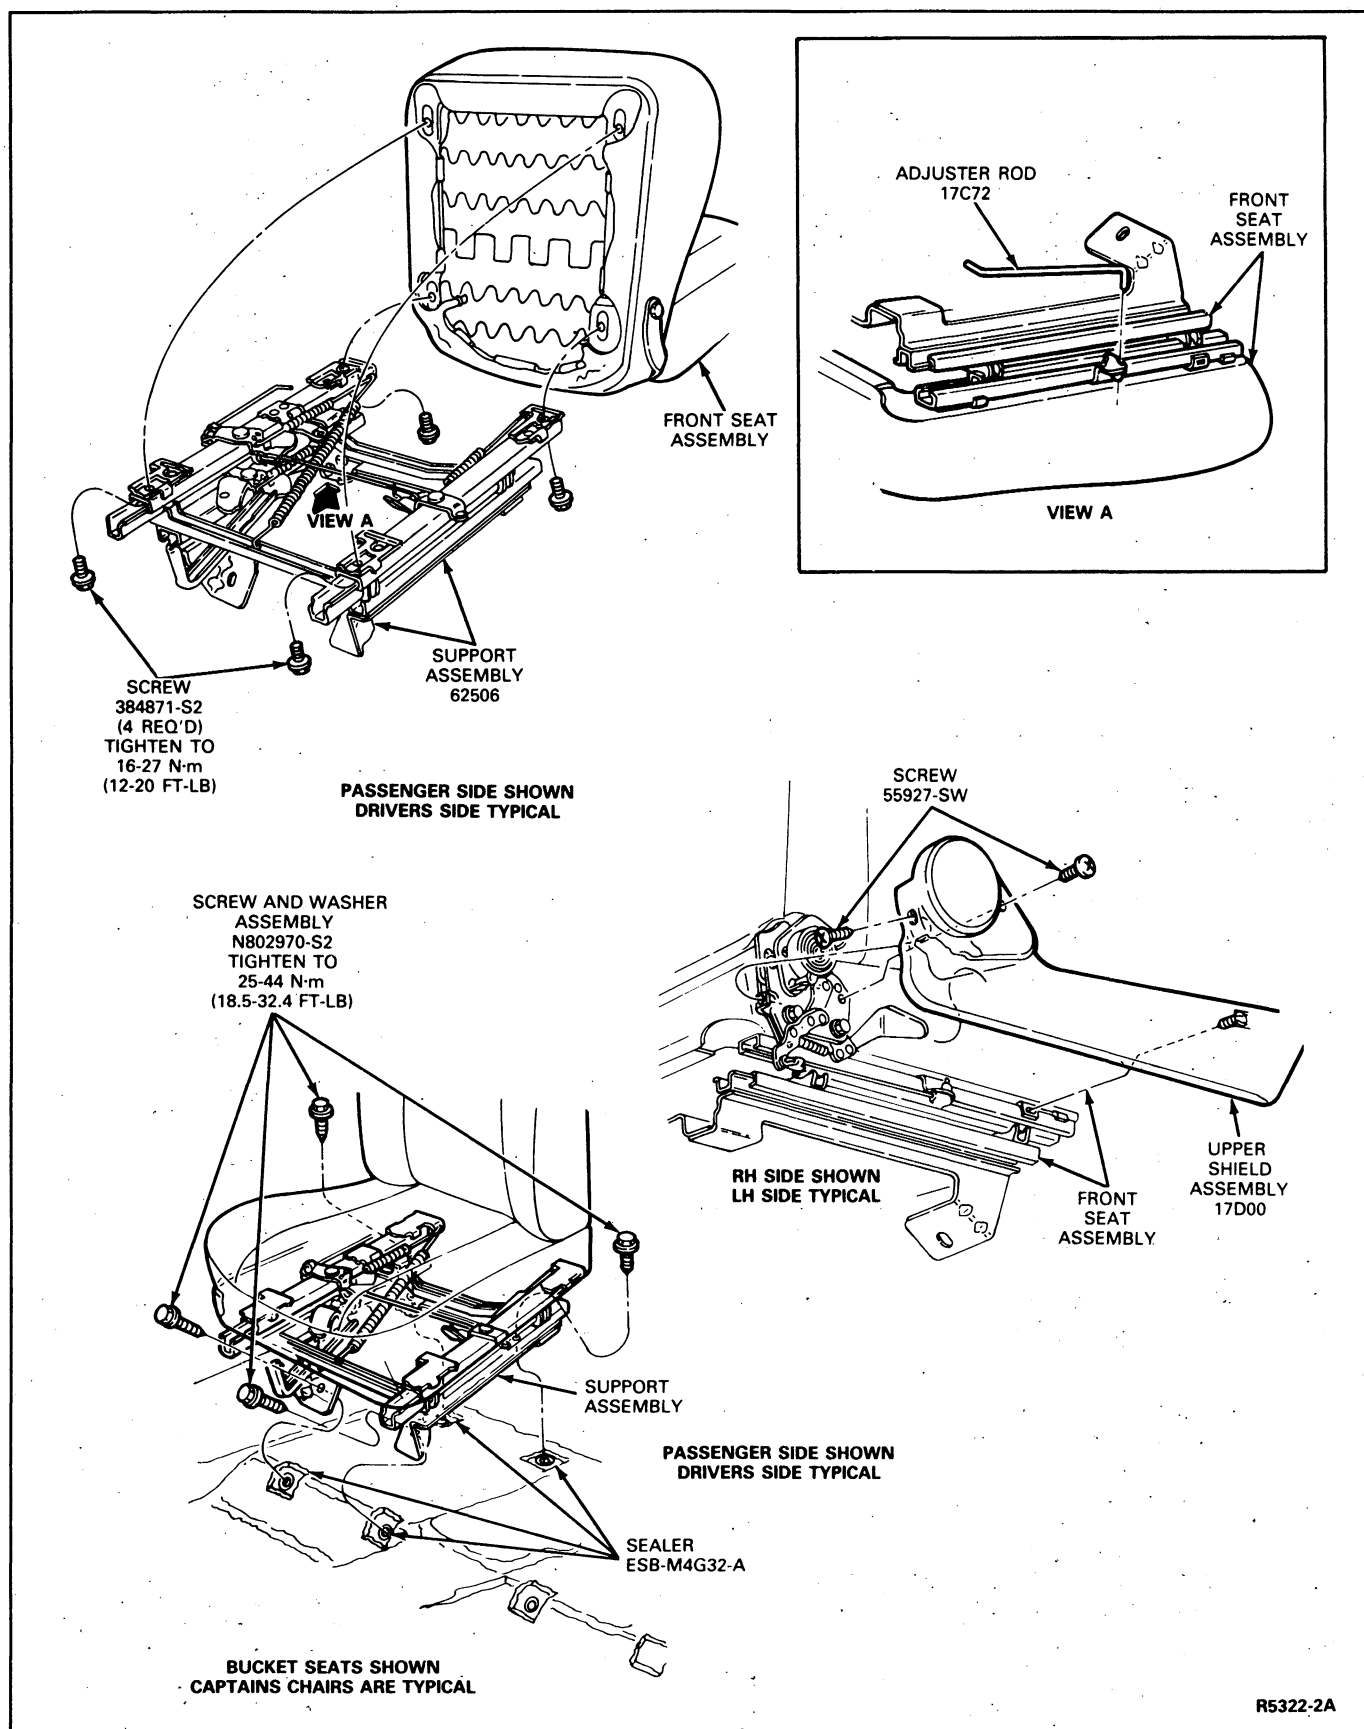

FIG. 5 F-150—F-350 Super Cab and Bronco Bucket Seat Installation
Refer to Fig. 5.
2. Position seat and track assembly on the floor and secure bolts. Apply sealer around support assembly attaching bolt locations on floorpan (Fig. 5). Tighten bolts to 25-44 N·m (19-32 ft-lb).
1. Remove the two front bolts retaining the passenger seat and support assembly to the floorpan (Fig. 5).
2. Move the seat release lever rearward, causing the seat to "pop-up" and fold forward. Then remove the two rear bolts used to retain the seat and support assembly to the floorpan (Fig. 5).
3. Install the ends of the assist springs into their retainers (Fig. 5).
5. Position the seat and support assembly over the floorpan attaching holes. Then, install the two front attaching bolts but DO NOT tighten (Fig. 5).
10. Operate the seat support release lever rearward. Ensure the seat back adjuster permits the seat back to fold forward at approximately the same time the seat support assembly unlatches and "pops-up." In the event the seat assembly and/or the seat back does not release properly, it will be necessary to adjust the release cable by moving the slotted cable retainer fore-or-aft as required (Fig. 5).